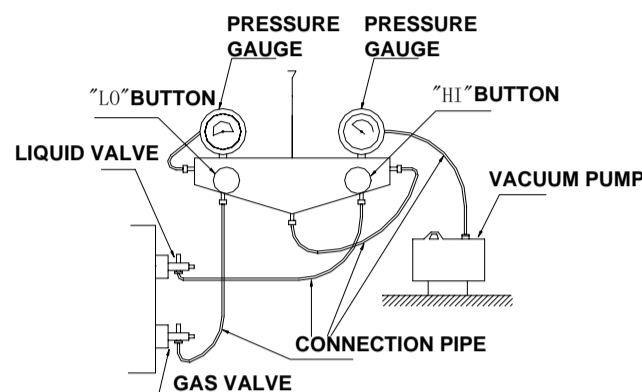

Fig.15
- If possible, evacuate from the one-way valve with a vacuum pump. (Fig.15)